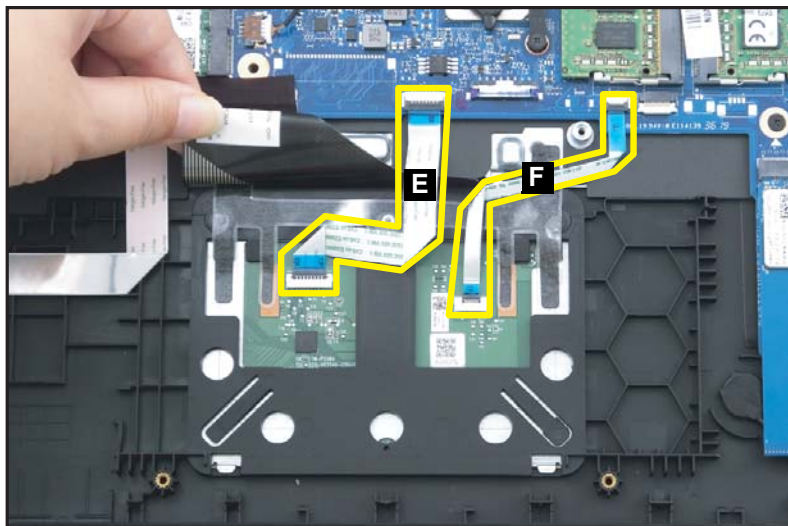

Figure 1-102. Replacing the Touchpad Module
5. Connect the touchpad FFC (E) to the touchpad module and mainboard connectors (Figure 1-102).
6. Connect the fingerprint FFC (F) to the touchpad module and mainboard connectors (Figure 1-102). Then put down the keyboard FPC.